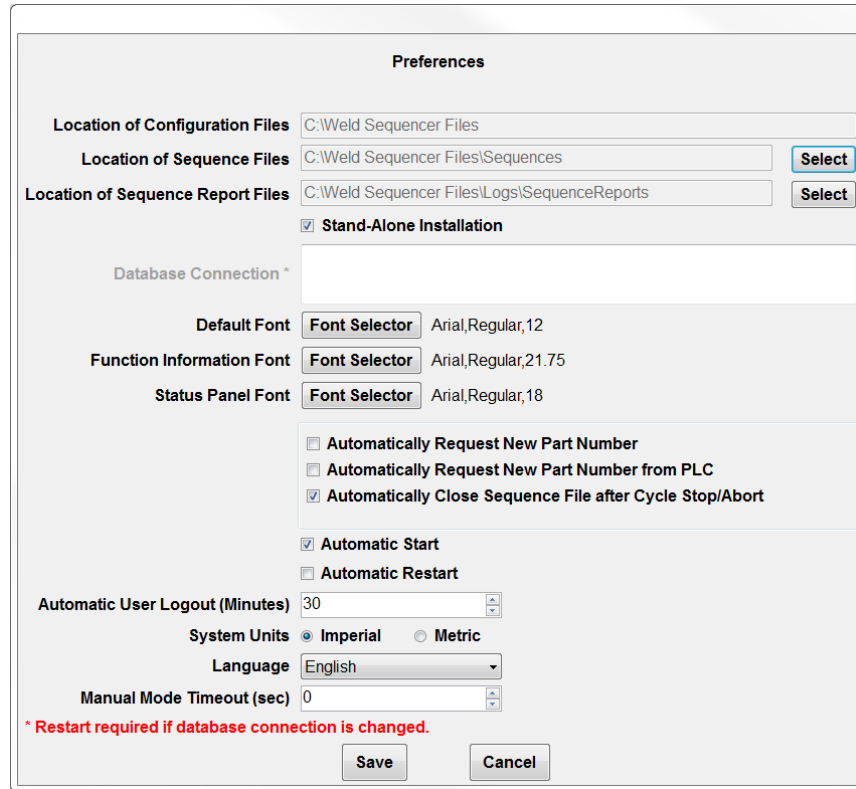

Figure 7.4 Weld Sequencer Preferences
- On the workstation preferences, place a check mark in the *Automatically Request New Part Number from PLC* option (Figure 7.4 on page 7.8).